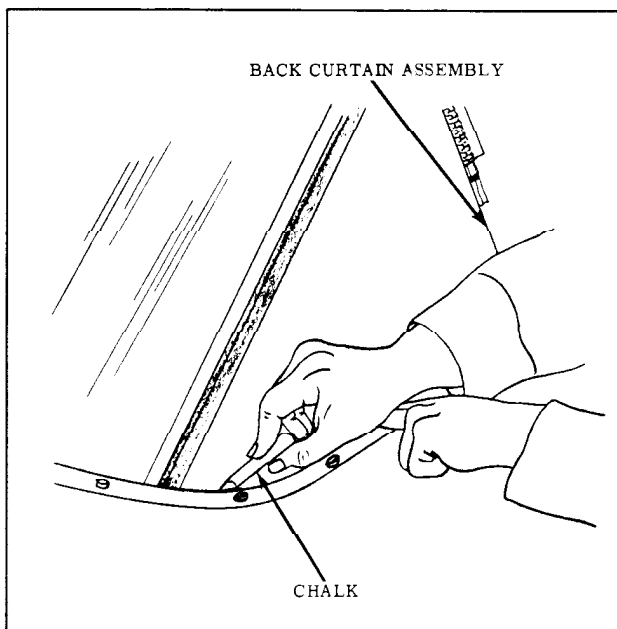

Fig. 15-98 Marking Back Curtain
19. Where required, place reference chalk mark on outer surface of back curtain along pinchweld finishing molding. Readjust back curtain assembly as required. (Fig. 15-98)